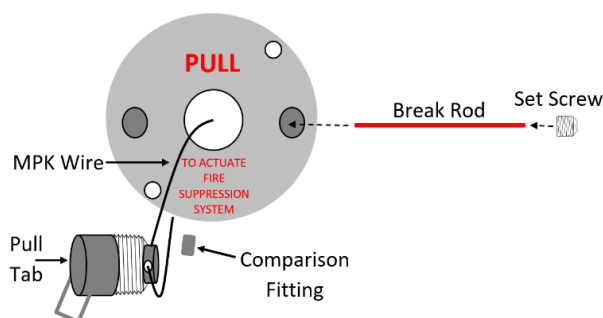

Figure 14.5
- a. Remove the plastic break rod (to avoid breaking the rod) from the pull face with an Allen wrench. (see figure 14.5)